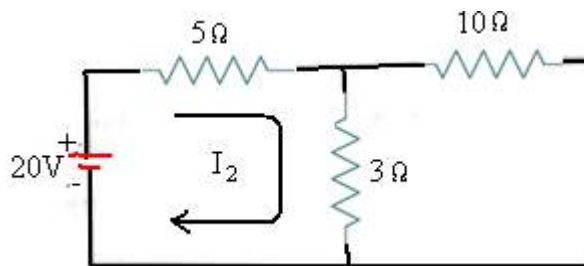

Fig.1
**Solution:** Applying the superposition theorem, the current  $I_2$  in the resistance of  $3\ \Omega$  due to the voltage source of  $20V$  alone, with current source of  $5A$  open circuited [ as shown in the figure.1 below ] is given by :